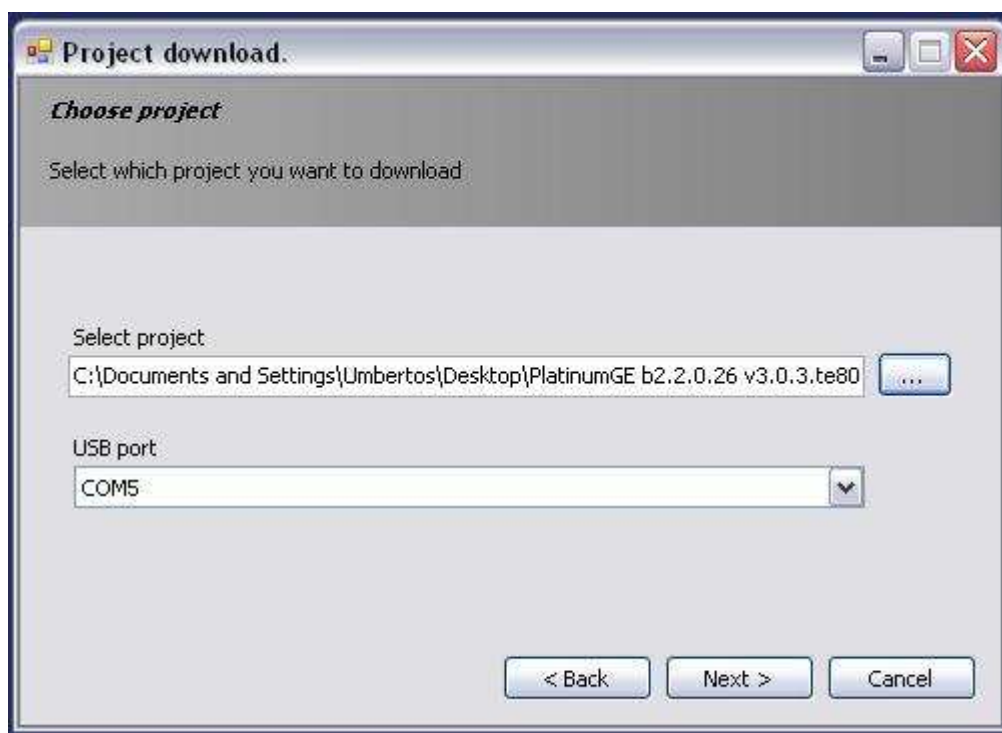

Fig. 4
- Press "Next" and select the project to be downloaded from the folder Project. As you can see on Figure 4 above, the file will have extension ".te808".